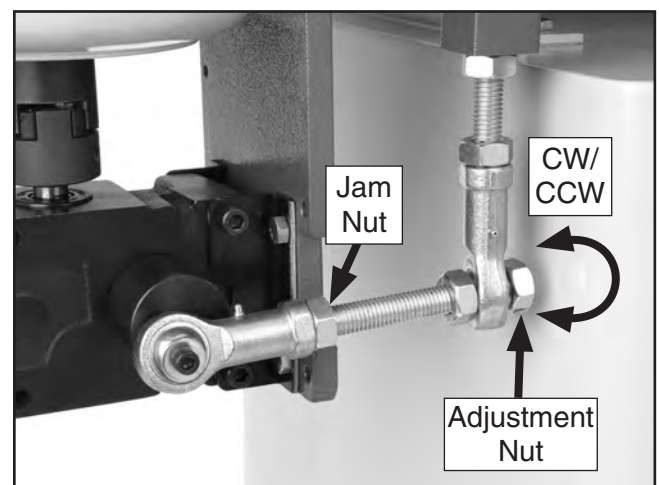

Figure 14. Check and adjustment nuts.
4. Loosen the jam nut shown in **Figure 14**.
- If belt tracks above center, turn adjustment nut, shown in **Figure 14**, counterclockwise.